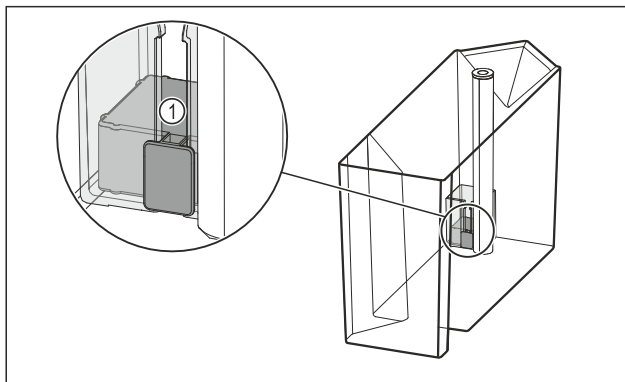

Fig. 98
- ▶ Check whether the float Fig. 98 (1) is jammed. If the float is jammed: